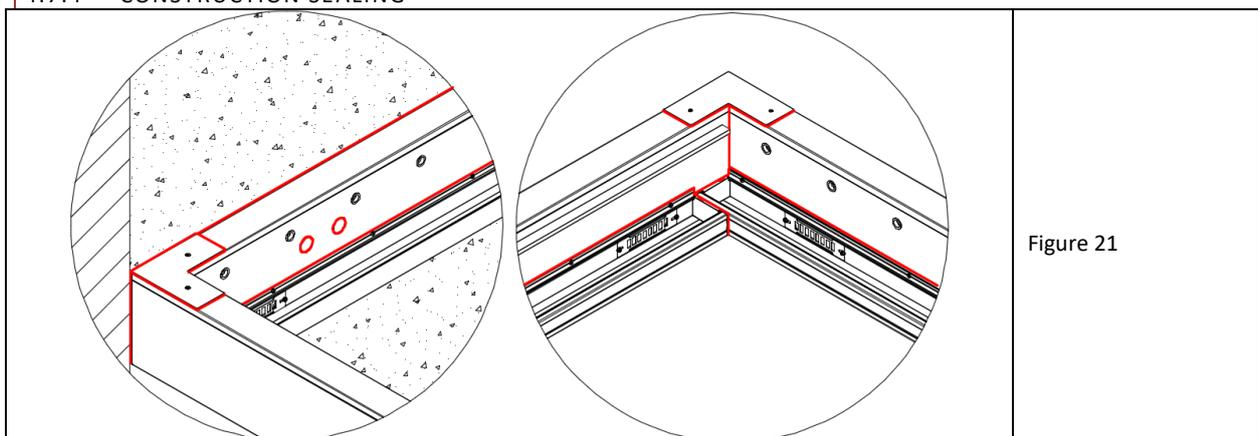

Figure 21
3. Fig. 21 shows in red the contact lines absolutely required for sealing. These include, but are not limited to: the joints joining the beams to each other (vertical joints), the outline of the angled end caps on the revisions, the top edge of the joint between each gutter and beam, the outline of the joint between the gutter end cap and the beams or adjacent gutter, the outline of the through-anchor end caps, the joint between the revisions and the building wall, the top joints of the pergola modules, and others.